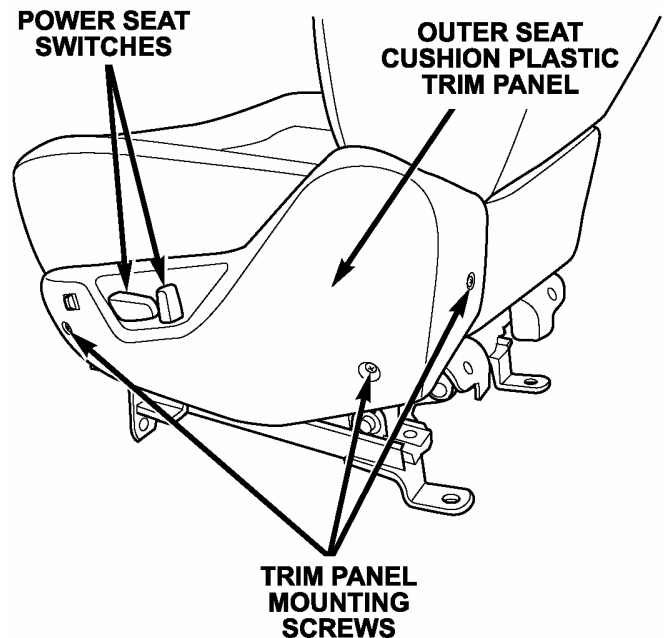

Figure 1
8. Remove the outer seat cushion plastic trim panel screws, disconnect the power seat switches and place the panel aside (Figure 1).